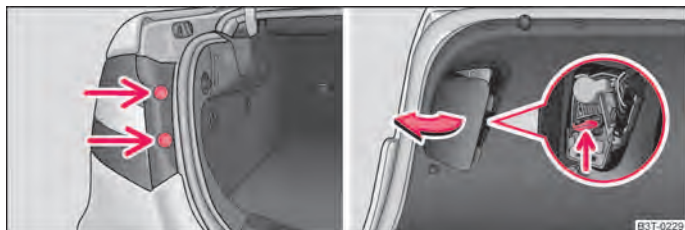

Fig. 207 Remove the outer part of the rear light unit/remove the inner part of the rear light unit
- Take out the plugs → **fig. 207** - left and unscrew the rear light unit using a torx wrench¹⁾.
- Screw the rear light unit tight and press in the plugs → **fig. 207** - left.
- Take off the cover of the rear light unit on the inner side of the bonnet lid → **fig. 207** - right.
- Press the spring bolt → **fig. 207** - right and take the lamp holder out of the housing of the rear light unit.